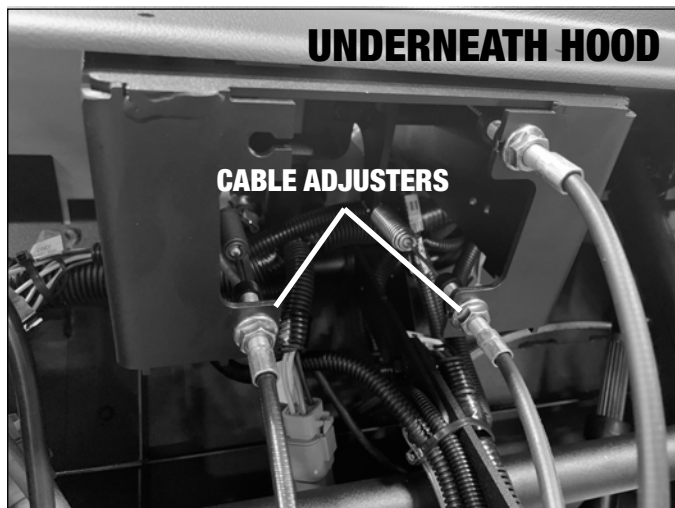

figure 5.3
2. Loosen the cable adjusters behind the dash board. (figure 5.3)